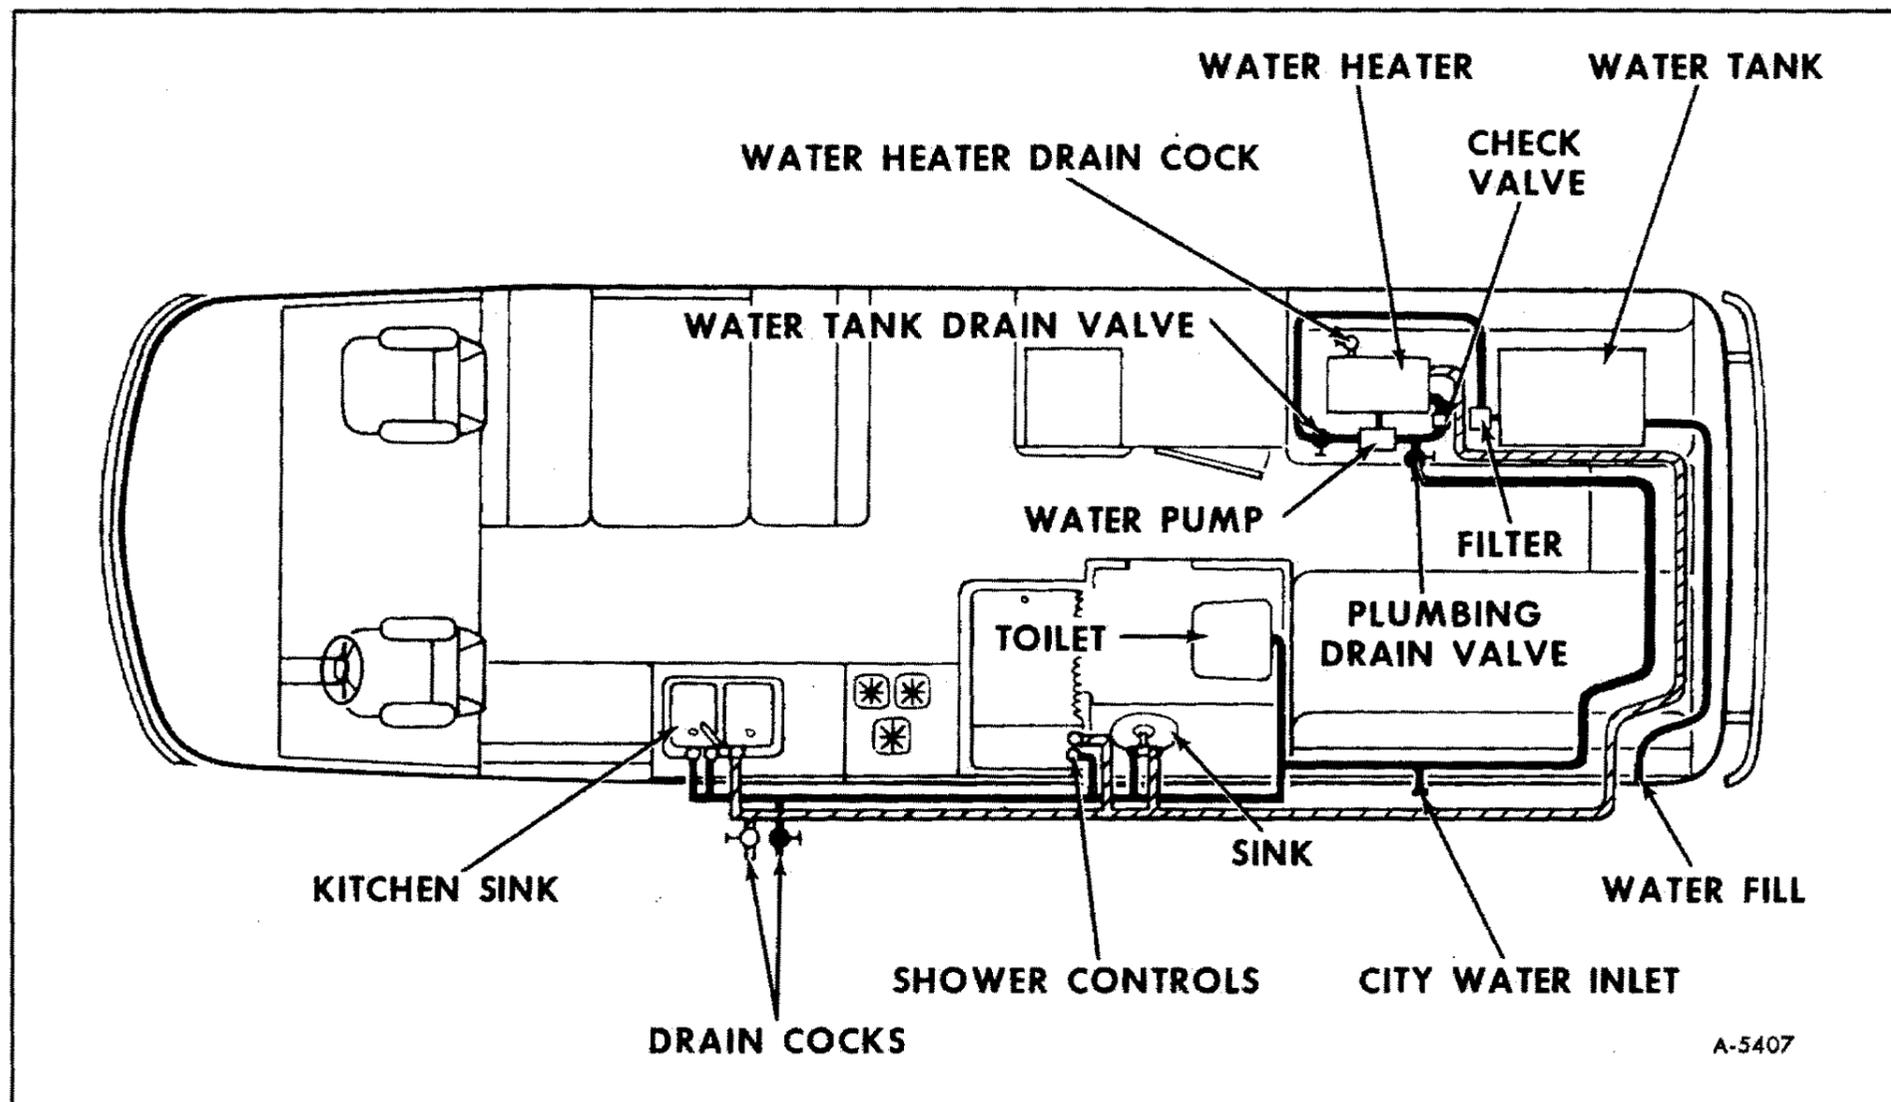

Figure 1—Living Area Water System
The water system in model ZEO6582 (illustrated in figure 1) functions basically the same as model ZEO6581, with the exception of the component location and the addition of a new dry bath.
4. Open tank drain valve and allow tank to drain (see figure 1).
4. Close water tank drain valve (see figure 1).